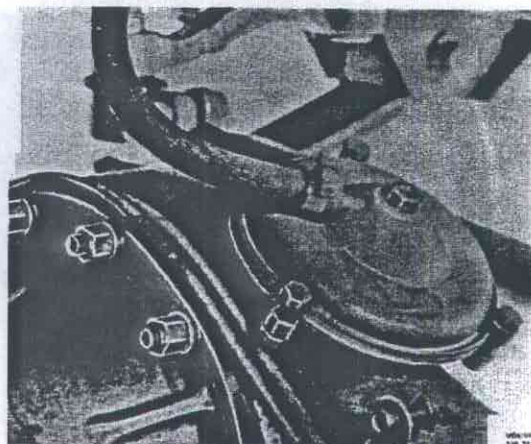

Fig. 46-19. Control cylinder
1. Remove the bolts, Fig. 46-19, holding the cylinder cover. Remove the cover.